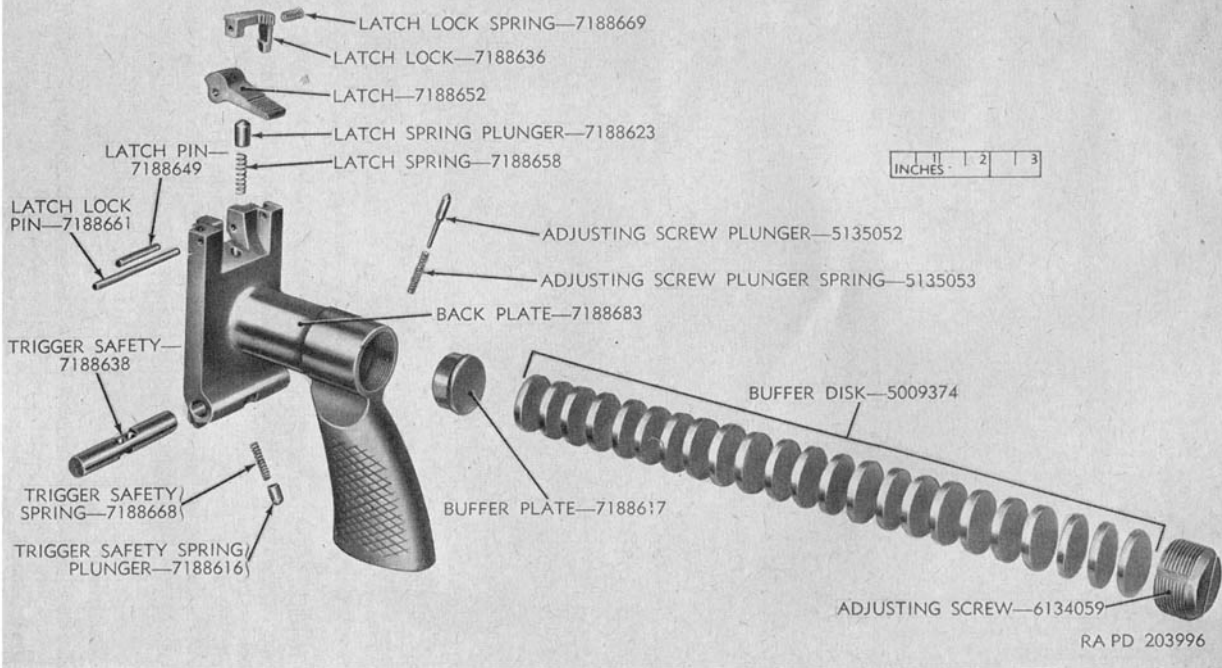

Figure 14. Back plate assembly—exploded view.
b. Buffer Plate (fig. 14). Check buffer plate for binding in back plate.
c. Buffer Disk (fig. 14). Check for frayed or discolored disks.
d. Adjusting Screw (fig. 14). Check threads.
e. Back Plate (fig. 14). Back plate must not bind in guideways of the casing.
f. Safeties (fig. 14). Check trigger safety for ease of operation and proper engagement.